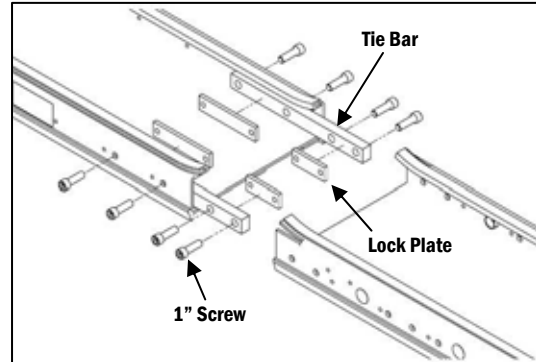

Figure 3
② Assemble the Conveyor - For Conveyors without Stands
b. Using a 1/4" Allen Wrench, remove the four 5/16" Socket Head Screws to disassemble the Tracking Block and Lock Plate from the Tie Bar (**Figure 3**).